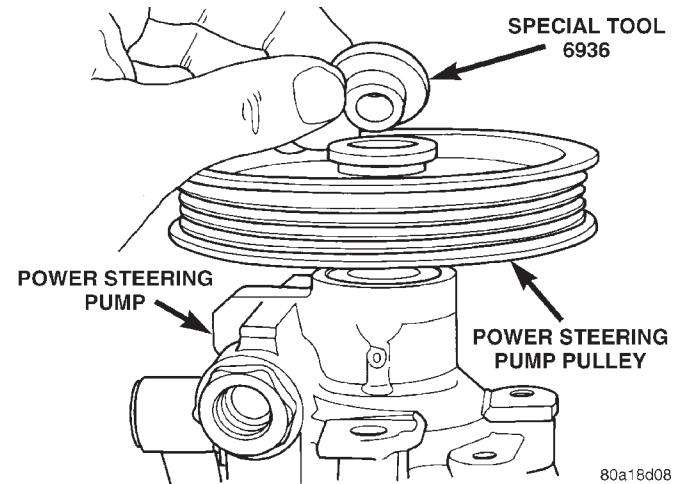

Fig. 53 Spacer Correctly Installed On Power Steering Pump Pulley
(3) Place Installation Spacer, Special Tool 6936 on top of the power steering pump pulley (Fig. 53).